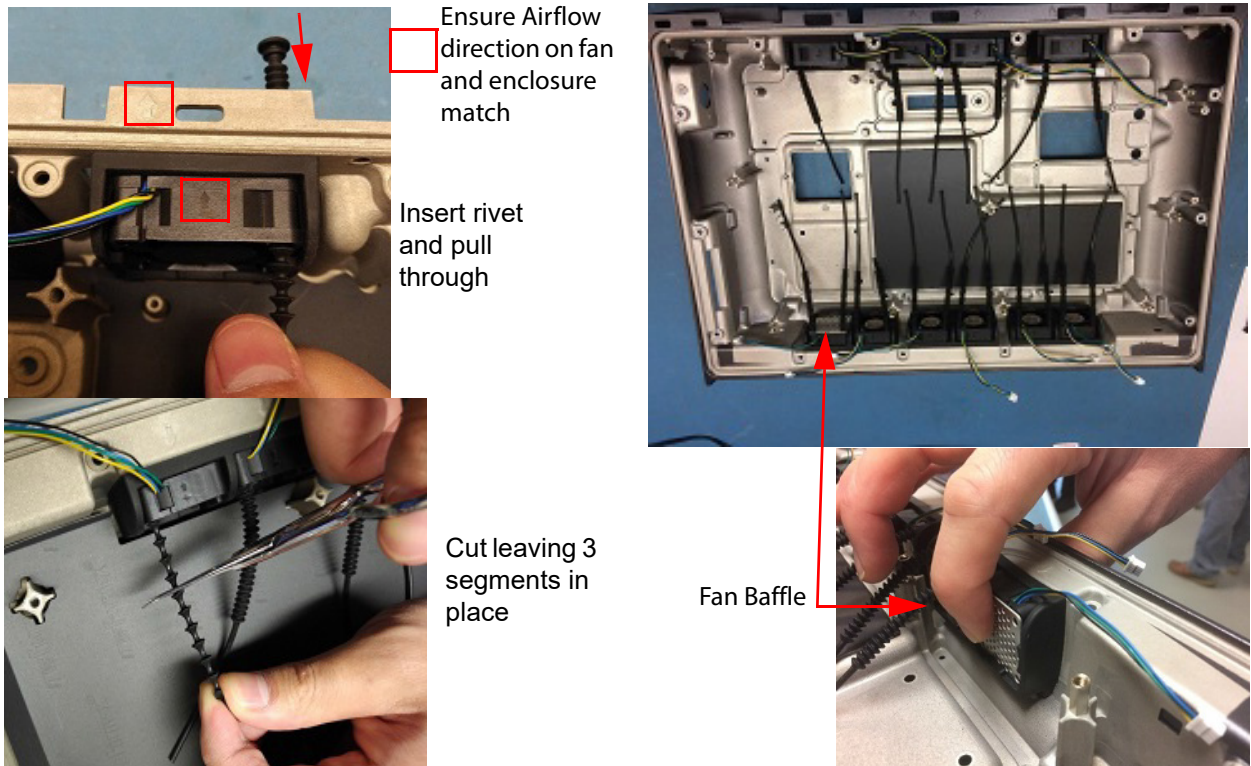

Figure 6.27 Fan Assembly
- 1 Cut the button on the outside end of the Fan Mount Rivet and pull the rivet through from the inside of the system. Reference Figure 6.27 on page 68.
- 1 Install the fan in the required location. Reference Figure 6.27 on page 68.